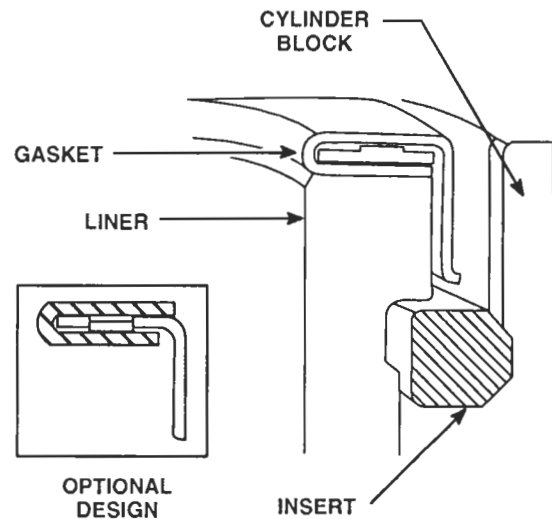

Figure 7. Cylinder Liner Mounting in Block
2. Place a standard size cylinder liner insert (.1795–.1800 inches thick) in the block counterbore (Figure 7.)